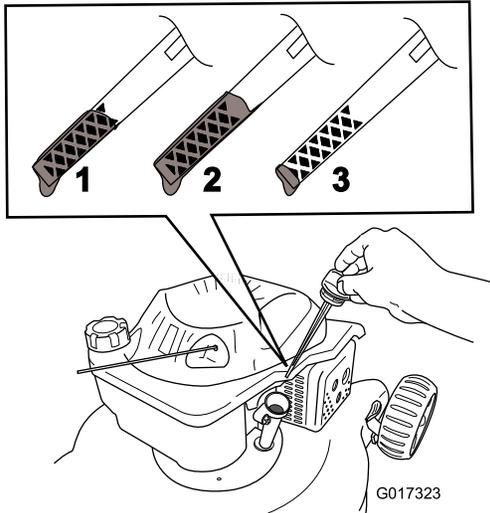

Figure 9
5. To determine the proper oil level on the dipstick, refer to Figure 9).
- Note:** Fill the engine crankcase with oil until the dipstick indicates that the engine oil level is correct as shown in Figure 9. If you overfill the engine with oil, remove the excess oil as directed in Changing the Engine Oil.